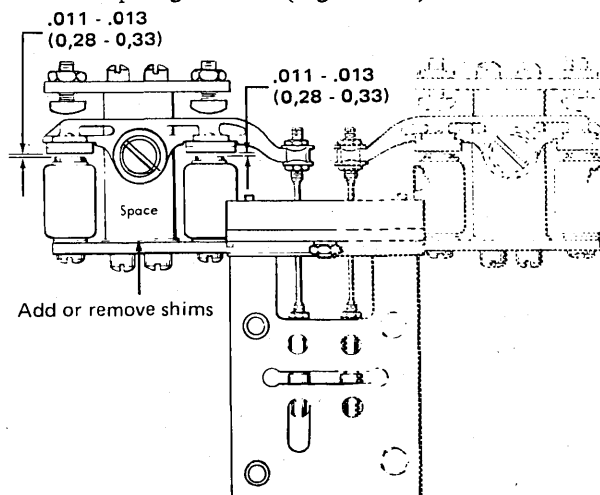

Figure 4-63. Space Start-Stop Magnet Armature in Neutral Position
3. Add or remove the shims under the pivot support block to obtain .011 to .013 in. (0, 28 to 0, 33 mm) clearance between the start-magnet and stop-magnet cores and the armature (Figure 4-63). The optimum clearance between the armature and the magnets when in the neutral (de-energized) position is .011 to .013 in. (0, 28 to 0, 33 mm). Some spool valve units have a .011 to .014 in. (0, 28 to 0, 36 mm) clearance, which is correct. The spool valve adjustments are not critical. Normally, this adjustment must be changed only when related parts have been replaced.